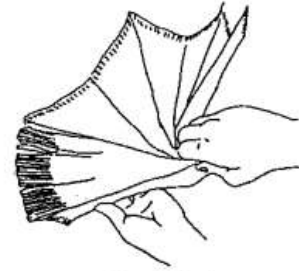

Fig. 3.1-4
- (1) In order to prevent folded chart paper from falling out of the machine, loosen the chart paper as shown Fig. 3.1-4.
- (2) Open the chart paper board. Place the chart paper in the chart paper housing unit with the long side of chart paper perforation set at the left with the printing surface facing upward.